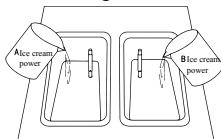

Figure 22
4. The DW ice cream machine must have mixed powder in both hoppers. They can be the same or different flavor. Using two different flavors, the user can make ice cream of two flavors and one mixed flavor (see Figure 22).